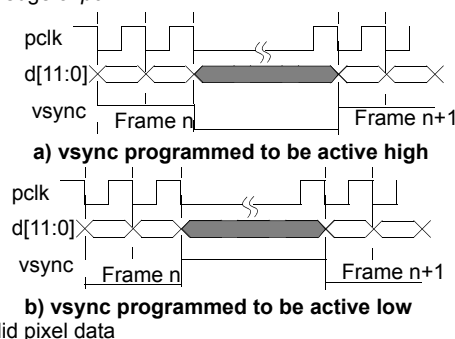

Figure 41. *vsync* in Level Mode
- Level mode should be used when the pixel clock, *pclk*, is programmed to operate in *free running mode*. In level mode the *vsync* output pin will go to the specified level (high or low) at the start of each frame and remain at that level until the last pixel of that row in the frame is placed on *d[11:0]* as shown in Figure 41. The *hsync* level is always synchronized to the active edge of *pclk*.